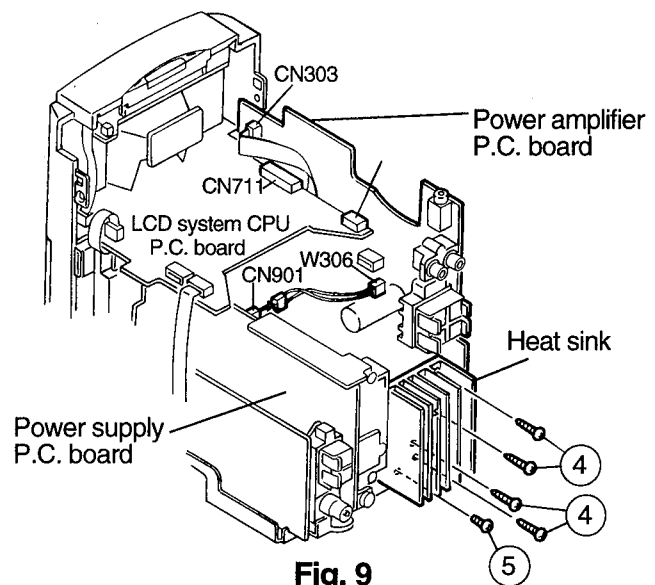

Fig. 9
(See Figs. 9 and 10)
4. Remove the five screws **④** and **⑤** retaining the heat sink. (See Fig. 9)
5. From the connector CN303 on the power amplifier P.C. board, disconnect the card wire outgoing from the connector CN34 on the head amplifier & mechanism control P.C. board. (See Fig. 9)
6. From the connector CN901 on the power supply board, disconnect the connector wire out going from the connector W306 on the power amplifier P.C. board. (See Fig. 9)
8. Remove the power amplifier P.C. board from the two connectors CN711 and CN712 on the LCD system CPU P.C. board. (See Fig. 9)